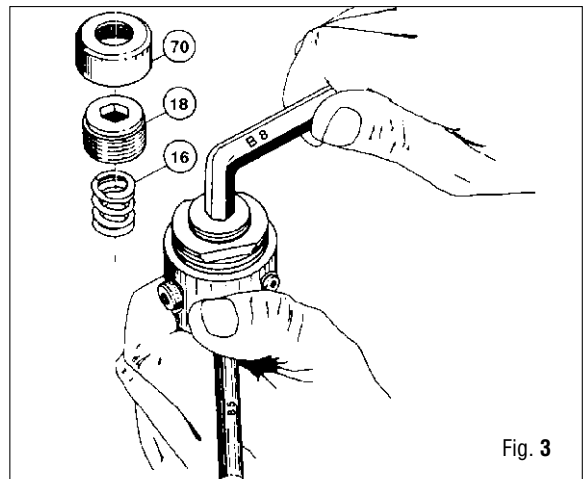

Fig. 3
6. Remove the protection cap (70). (Fig. 3)
7. Using Allen wrench (B-8), unscrew adjusting nut (18) and remove spring (16). (Fig. 3)